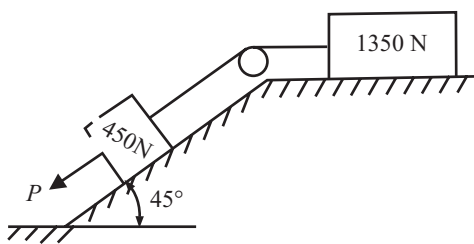

Fig 9.35
Q. 22: Determine the necessary force P acting parallel to the plane as shown in fig 9.35 to cause motion to impend. $\mu = 0.25$ and pulley to be smooth.